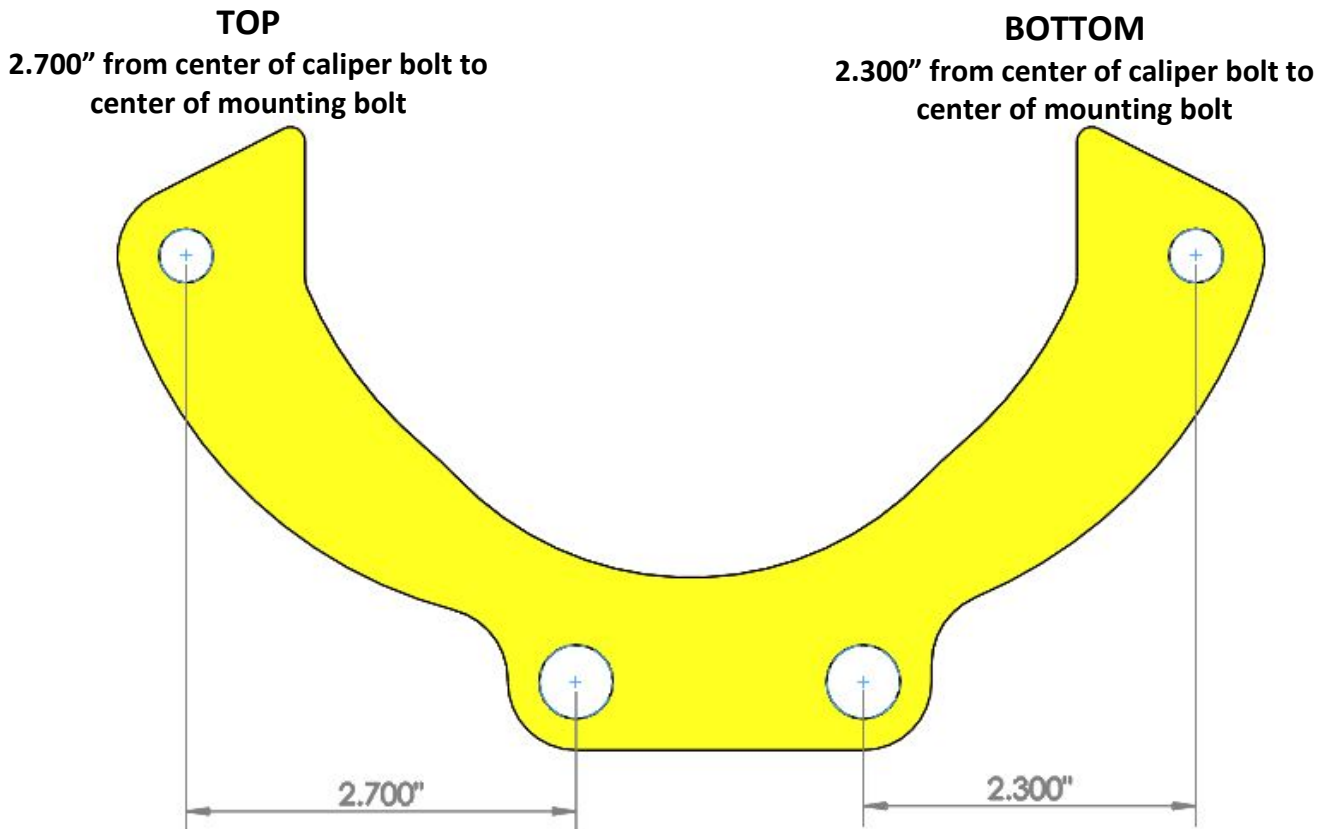

Figure 2 – Determining Top and Bottom for Intermediate Caliper Mounting Bracket
- Next, install the Intermediate Caliper Mounting Bracket onto the Primary Caliper Mounting Bracket. The intermediate caliper bracket installs to the rear of the primary bracket using two $\frac{1}{2}$ "-20 x $1\frac{3}{4}$ " Grade 8 Hex Head Bolts along with SAE Flatwashers and Nyloc nuts. **IMPORTANT:** The intermediate bracket has a top and a bottom. To assemble, install the bracket so the long side installs to the top. Refer to Figures 2 and 3 for additional information on how to install. Torque the bracket mounting bolts to 100 lbs/ft.